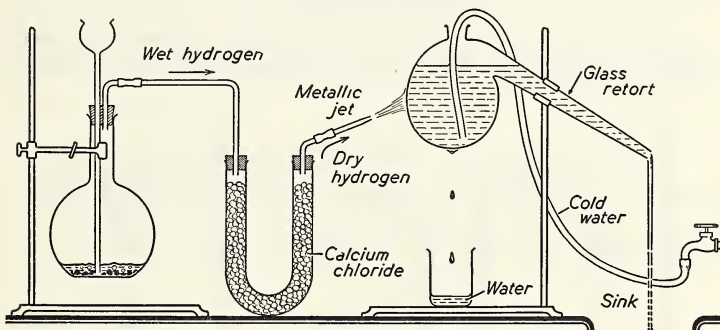

Fig. 37. Burning dry hydrogen at a jet.
1. Set up the apparatus as shown in Figure 37, making sure that there is a plentiful supply of zinc in the flask and an additional supply of acid available in case the supply of hydrogen dwindles. **NOTE:** The hydrogen generator shown in the diagram may be replaced by a Kipp apparatus (TEXT p. 62), which will supply a steady stream of hydrogen for a longer time than will the flask-type generator.